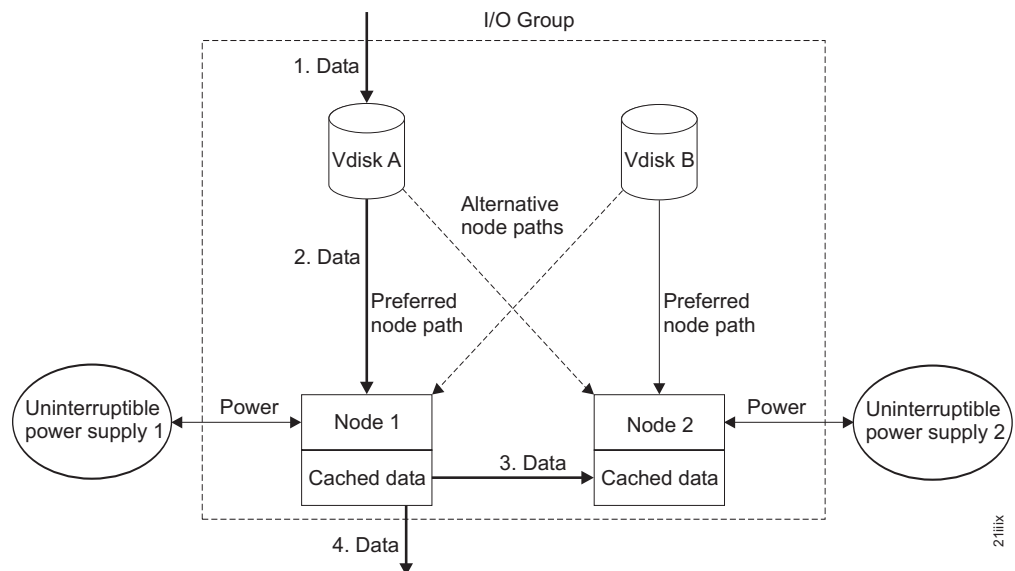

Figure 3. I/O group and uninterruptible power supply
Figure 3 shows an example I/O group. A write operation from a host is shown (item 1), that is targeted for VDisk A. This write operation is targeted at the preferred node, Node 1 (item 2). The write operation is cached and a copy of the data is made in the partner node, the Node 2 cache (item 3). The write operation is now complete so far as the host is concerned. At some time later the data is written, or de-staged, to storage (item 4). The figure also shows two uninterruptible power supply units (1 and 2) correctly configured so that each node is in a different power domain.